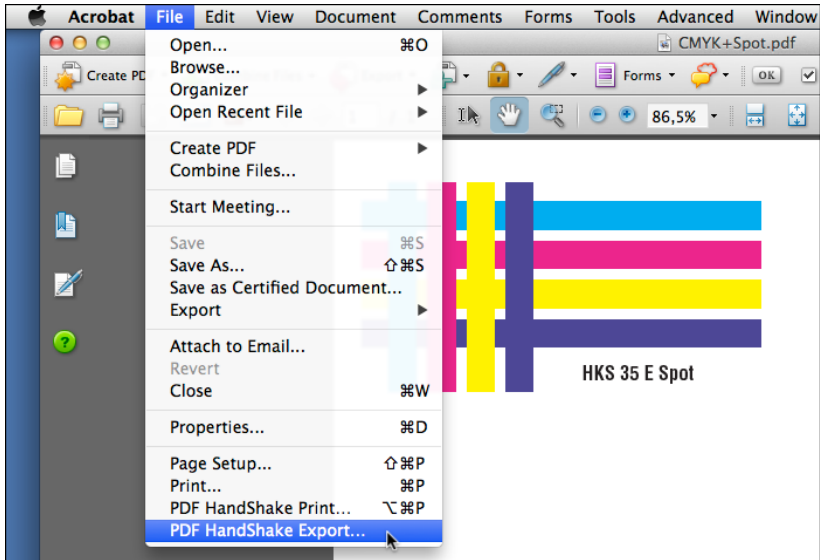

Fig. 10.1: Opening the “Export for Imposition” dialog
- Start your Acrobat application and open the `Export for Imposition` dialog from the `File` menu as shown in Fig. 10.1.